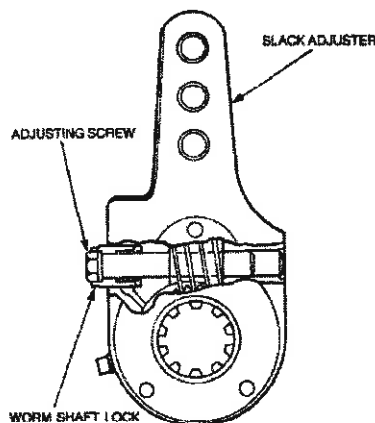

Figure 33 Slack Adjuster Worm Shaft Lock
- f. Disengage the worm shaft lock on the slack adjuster (Figure 33) by depressing the spring loaded sleeve with a wrench.